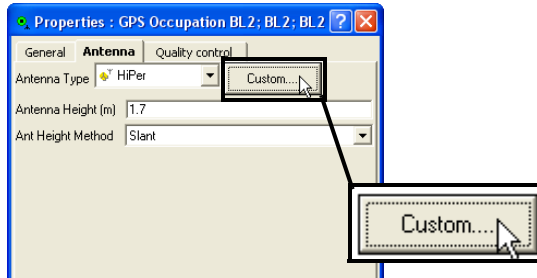
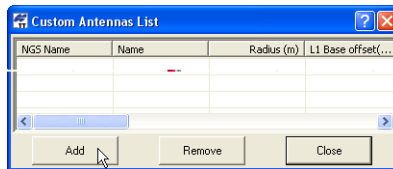

Figure 5-9. Custom Antennas List
Figure 5-10. New Custom Antenna
- On the *Antenna* tab, click **Custom** (Figure 5-9) to display the *Custom Antennas List* dialog box (Figure 5-10).
- On the *Custom Antennas List* dialog box, click **Add** (Figure 5-10). To remove an antenna, click on the antenna's row and click **Remove**.